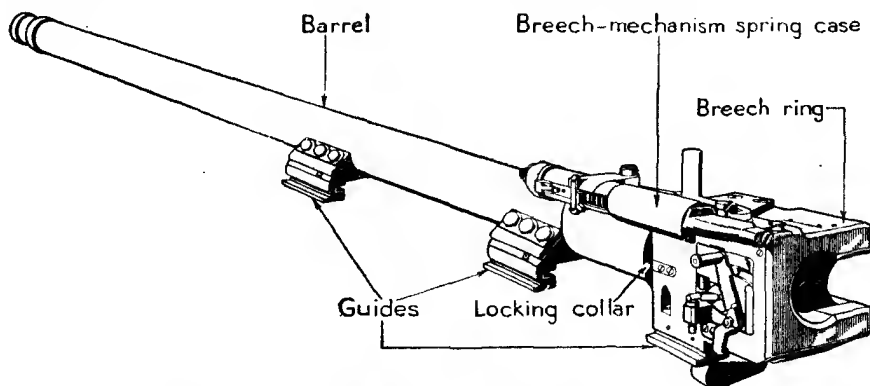

Figure 70.—Barrel and breech of 5-cm Pak.
(2) *Assembly*.—Assemble the breech-mechanism spring case to the breech ring (fig. 70). Insert the safety plunger in the breechblock. Insert the firing and recocking shafts, securing them by the retaining pin. Fit the crank to the breechblock and place the breechblock in the breech ring.